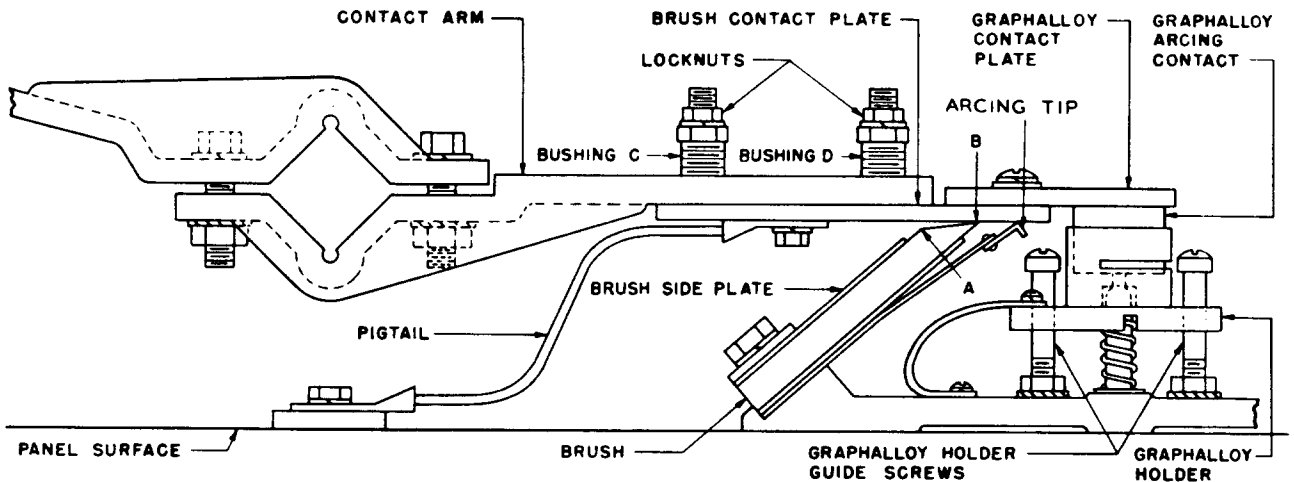

Fig. 6 — Contact Adjustment for Laminated-Type Contacts and Graphalloy Arcing Contacts — Bulletin 905, 907, and 908 Switches
(1) If contacts do not make or break approximately at the same time, inspect the group for any that are out of alignment with the others. Correct by shaping the contact springs with the pliers or raising or lowering stationary contact assemblies, as required, to bring them into alignment with the others of the group. When the contacts are supported by heavy members which cannot be shaped with the pliers, check for mechanical trouble which may require the replacement of parts. Remove dirt or other obstructions from graphalloy arcing contacts of the type shown in Fig. 6 by wiping with a clean cloth or replace springs as required. The arcing tips (see Fig. 6) should be shaped with pliers or replaced when required.
(4) *Brush-Type Main Contact — See Fig. 6:*
On switches having laminated brush main contacts of the type shown in Fig. 6, first adjust the graphalloy arcing contacts, if any, in accordance with (a) and then adjust the laminated brush contact in accordance with (b), (c), (d), and (e). On multipole switches do each step on all like contacts before proceeding to next step.